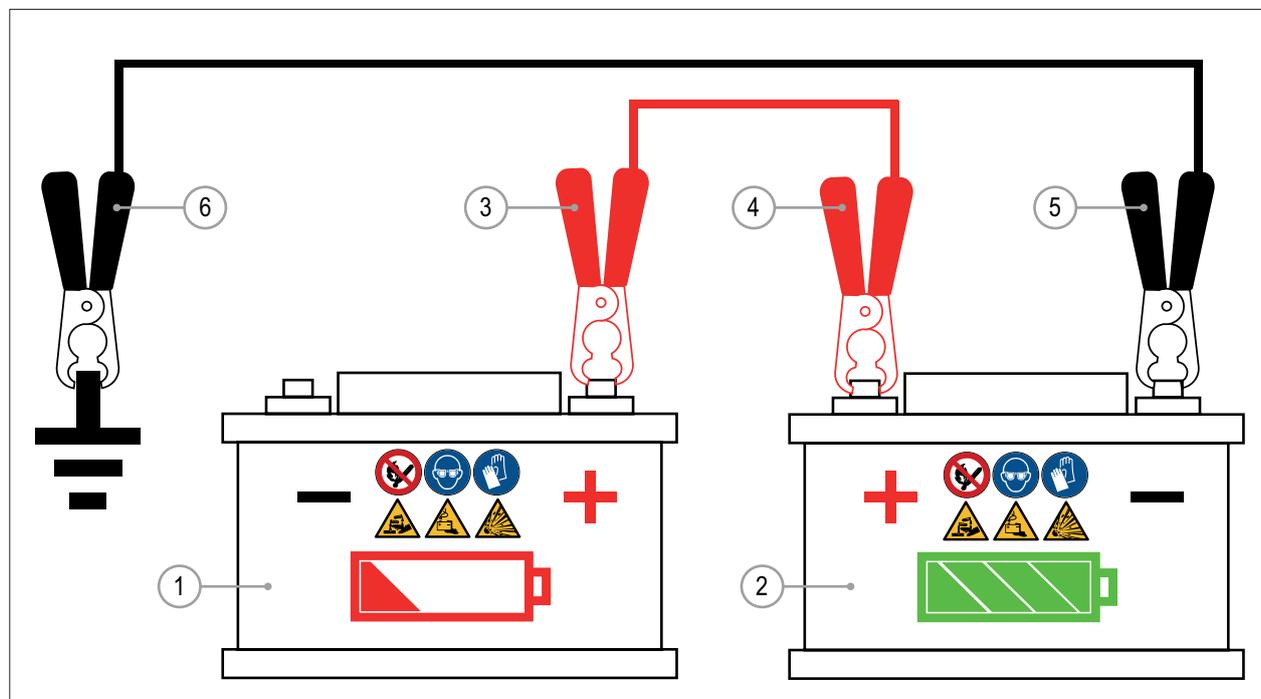

FIG. 30
If the machine battery (FIG. 30 - Rif. 1) is disabled it is possible to start the engine using an booster battery and the booster cables (FIG. 30 - Rif. 2) or a booster.
- 3) Connect positive (+) booster cable to disabled machine battery positive(+) post (FIG. 30 - Rif. 3).
- 4) Connect other end of positive(+) booster cable to booster battery positive(+) post (FIG. 30 - Rif. 4).
- 5) Connect negative (-) booster cable to booster battery negative (-) post (FIG. 30 - Rif. 5).
- 6) Connect other end of negative (-) booster cable to a metal part of machine frame or engine, away from battery (FIG. 30 - Rif. 6).